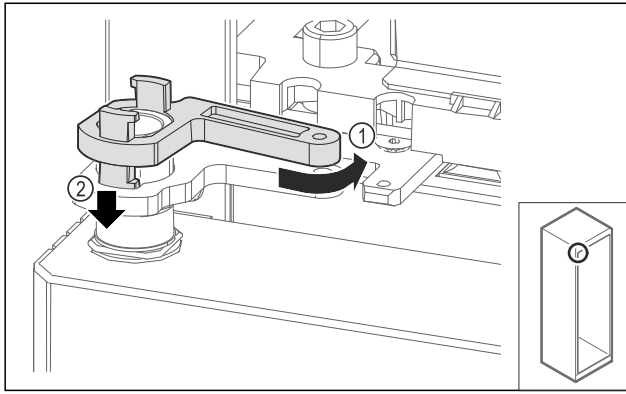

Fig. 63
- ▶ Turn the swap bearing block back slightly Fig. 63 (1), push it downward Fig. 63 (2) and lock it in the hinge angle bar.